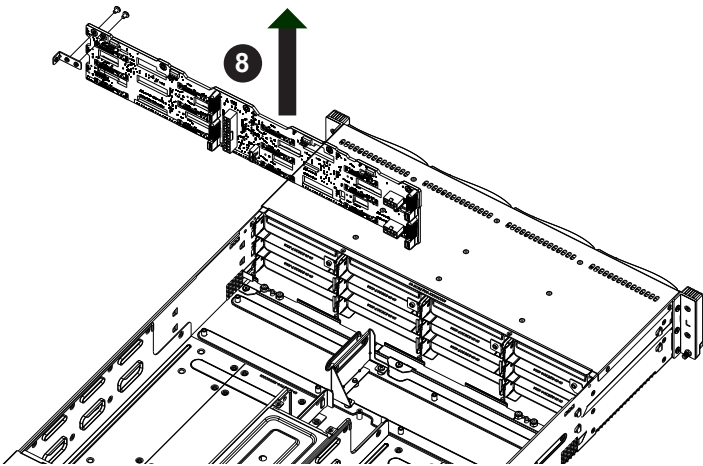

Figure 6-8. Removing the Backplane from the Chassis
8. Gently ease the backplane up and out of the chassis (Figure 6-8).